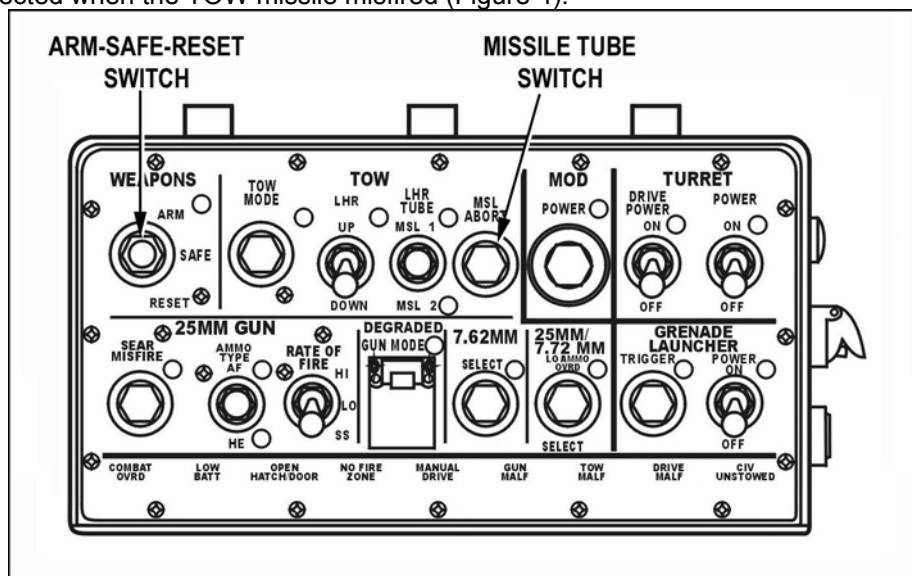

Figure 4. MISSILE TUBE switch.
- k. Reselect misfired TOW missile by moving the missile select switch to the missile that was selected when the TOW missile misfired (Figure 4).
- (1) If TOW missile fires, end remedial action.
- (2) If TOW missile does not fire in 5 seconds, select and fire the second TOW missile (refer to Figure 4).
- (3) If second TOW missile fails to fire, repeat steps a and b of Perform Misfire Procedures and steps a - j of Perform Remedial Action on a misfired TOW missile.
- (4) If second TOW missile does fire, go to step 3.